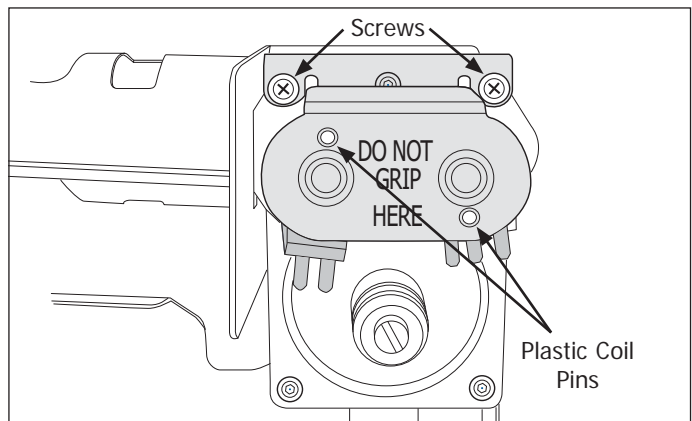

Figure 4-42.
3. Using a #2 Phillips head screwdriver, extract two screws securing the coil bracket to the valve body. Remove bracket from valve body. (See Figure 4-42 )